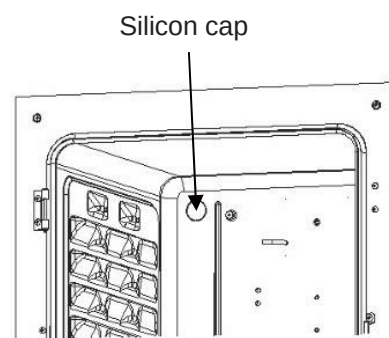
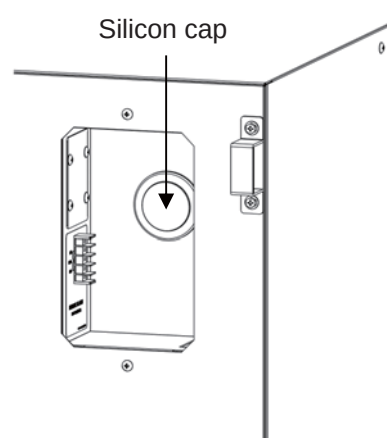

Fig. 8
Fig. 9
9. Remove the silicon caps for the access port from the interior (Fig. 8) and exterior (Fig. 9).